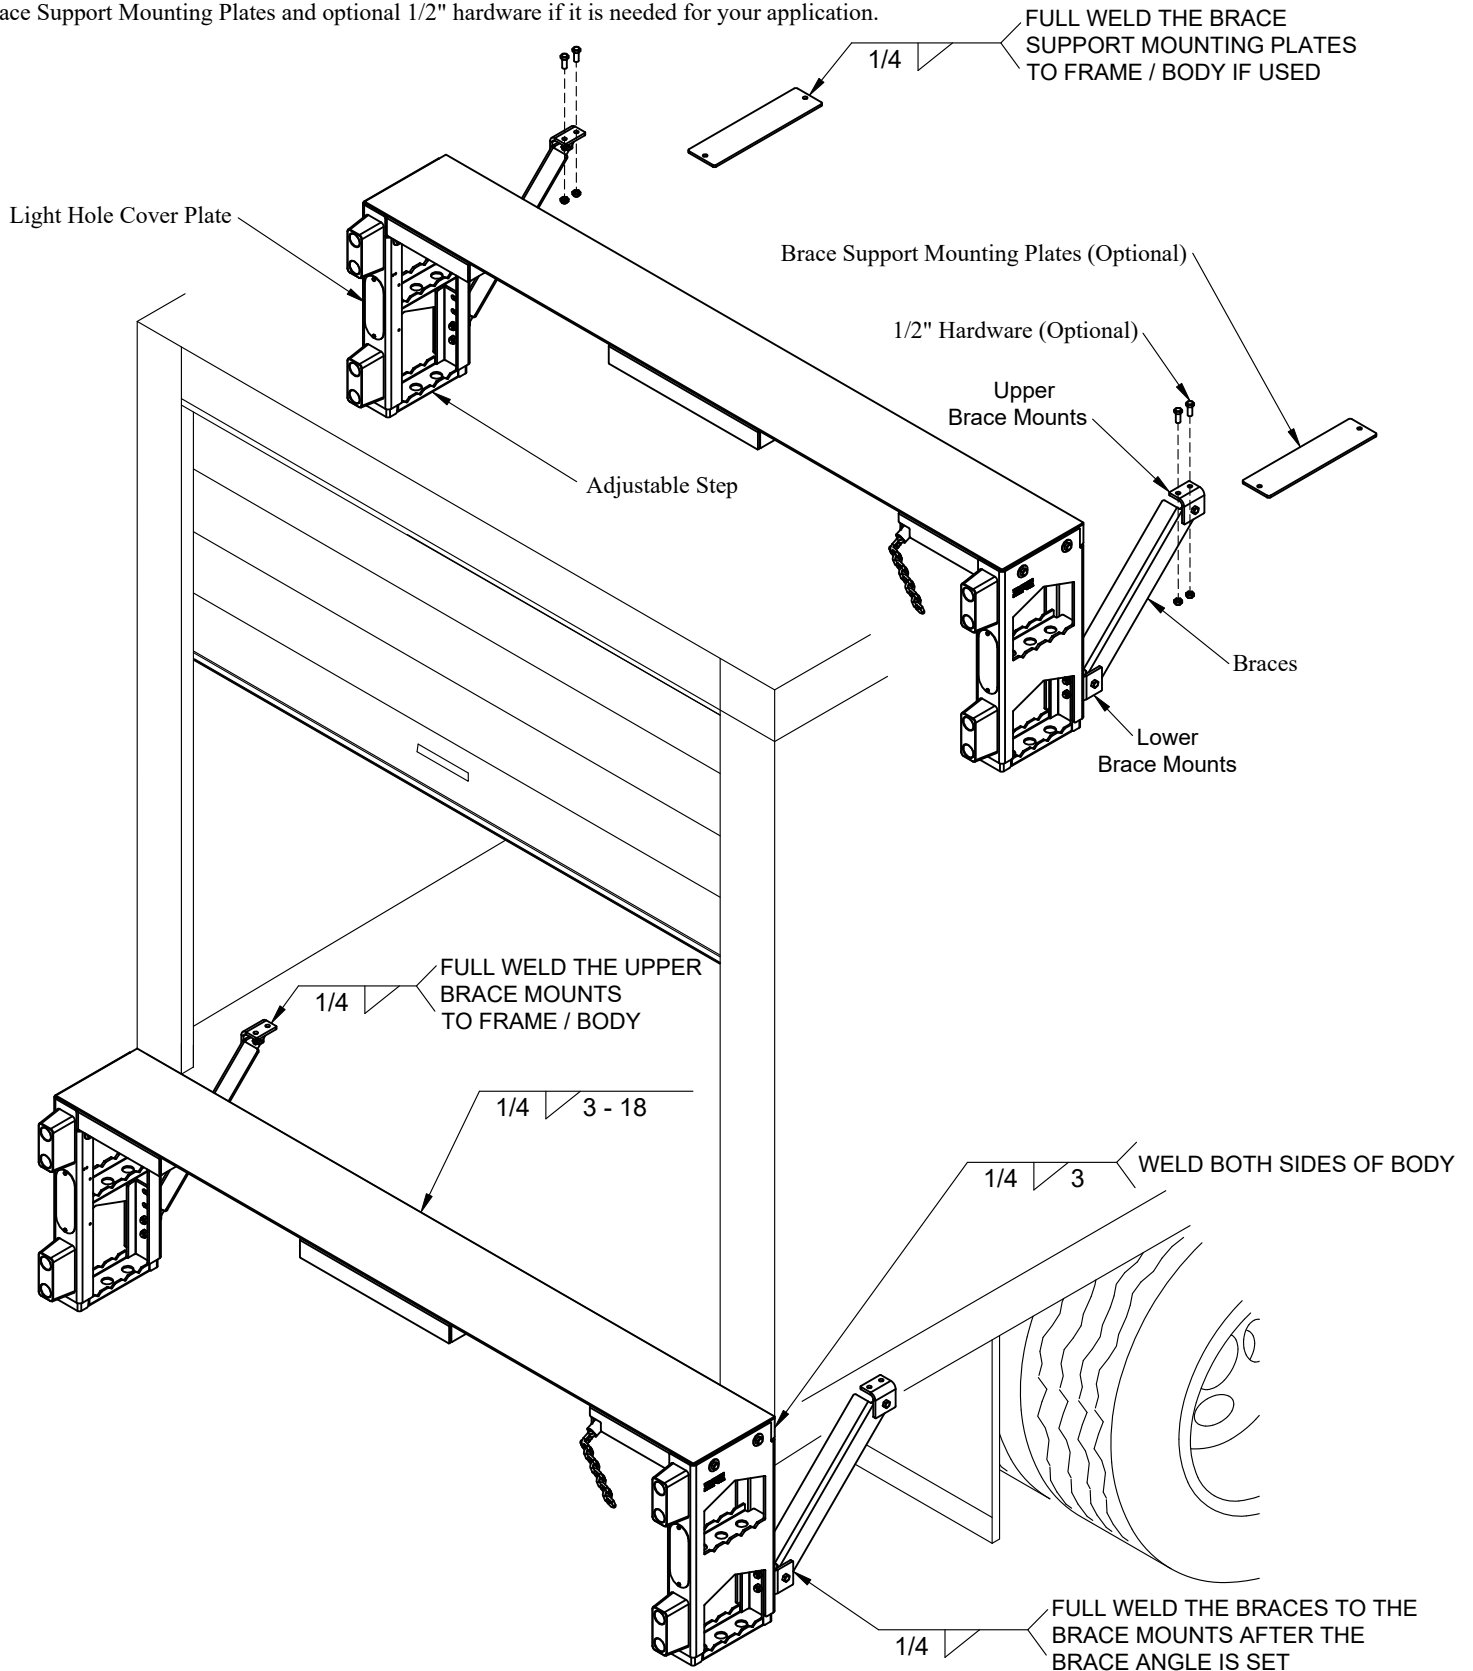

Figure 16: Bed Extension - Finish Weld Locations
3. **Finish Weld** the bed extension with 1/4" fillet welds (Figure 16).
2. **Attach** the lower brace mounts to the bed extension steps with the supplied 1/2" bolts and lock nuts (Figure 16).
3. **Attach** the braces and upper brace mounts to the lower brace mounts with the supplied 1/2" bolts and lock nuts (Figure 16).
4. **Position** the upper brace mounts under the body floor (Figure 16).
5. **Weld** the upper brace mounts into position (Figure 16).
6. **Weld** the braces into position (Figure 16).